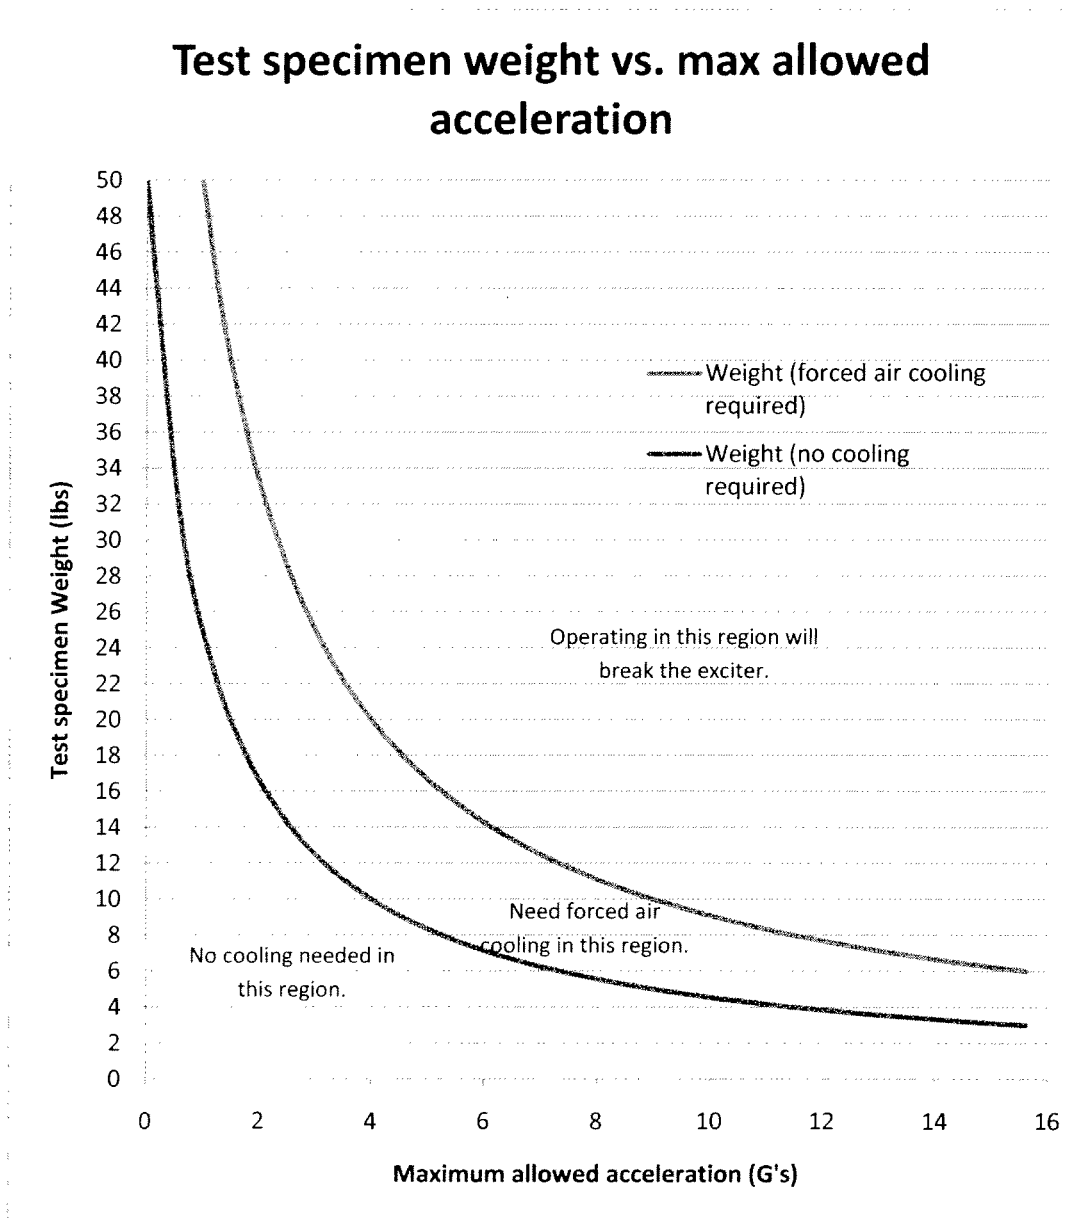

Figure 5 - Maximum allowed acceleration vs. test specimen weight
**Example:** Suppose our goal is to determine the frequency response of a hard drive to 200 Hz horizontal input. Figure 5 shows a typical setup for this kind of test. The test